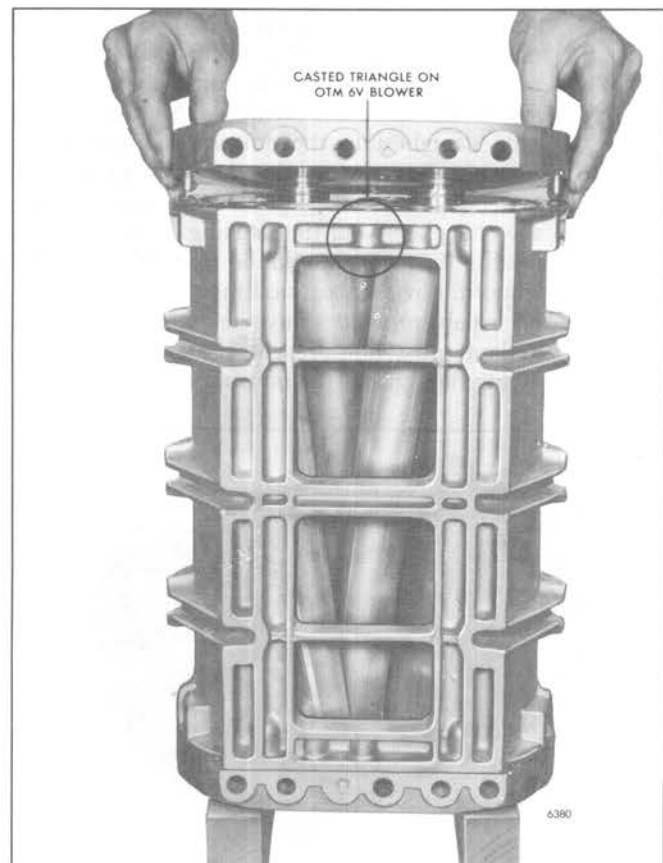

Fig. 18 – Installing Rear End Plate on Blower Rotors and Housing
- f. Lower the end plate straight over the rotor shafts until the dowel pins in the end plate contact the blower housing (Fig. 18). Then, carefully work the dowel pins into the dowel pin holes in the housing and the oil seal rings into the collars. Push the end plate tight against the housing. If necessary, tap the end plate lightly with a plastic hammer.